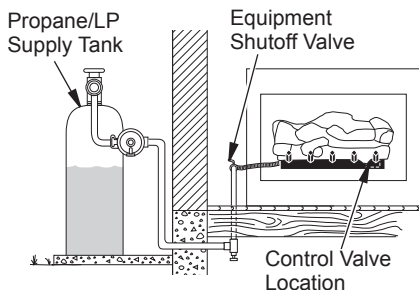

Figure 16 - Checking Gas Joints (Propane/LP Only)
3. Check all joints from gas meter to equipment shutoff valve for natural gas or propane/LP supply to equipment shutoff valve for propane/LP (see Figure 16 or 17). Apply noncorrosive leak detection fluid to all joints. Bubbles forming show a leak.
4. Check all joints from equipment shutoff valve to gas valve (see Figure 16 or 17, page 16). Apply noncorrosive leak detection fluid to all joints. Bubbles forming show a leak.